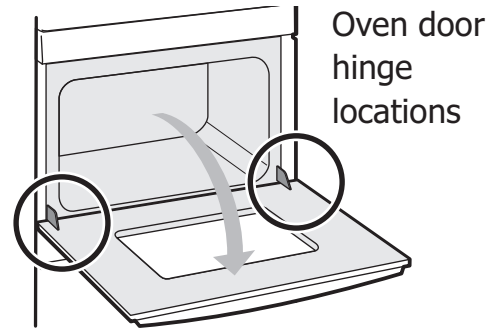
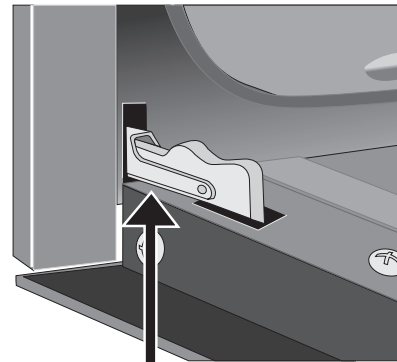

Figure 13: Door hinge location
Figure 14: Door hinge locked
1. Open oven door completely, horizontal with floor (Figure 13).
2. Pull up the lock located on each hinge support toward front of the oven until the lock stops. You may have to apply a little upward pressure on the lock to pull it up (Figure 13 and Figure 14).
3. Fully open the oven door, horizontal with floor (Figure 13).
4. Push the door hinge locks up toward and into the oven frame on both left and right oven door hinges to the locked position (Figure 14).